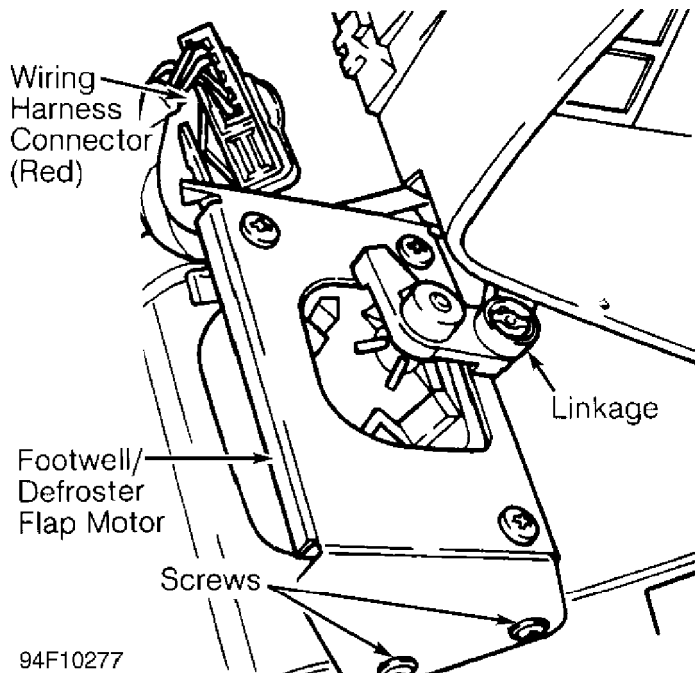

Fig. 7: Removing Footwell/Defroster Flap Motor (90 CS)
3) To remove footwell/defroster flap motor, disconnect wiring harness Red connector and linkage at motor. See Fig. 7. Remove screws and flap motor.